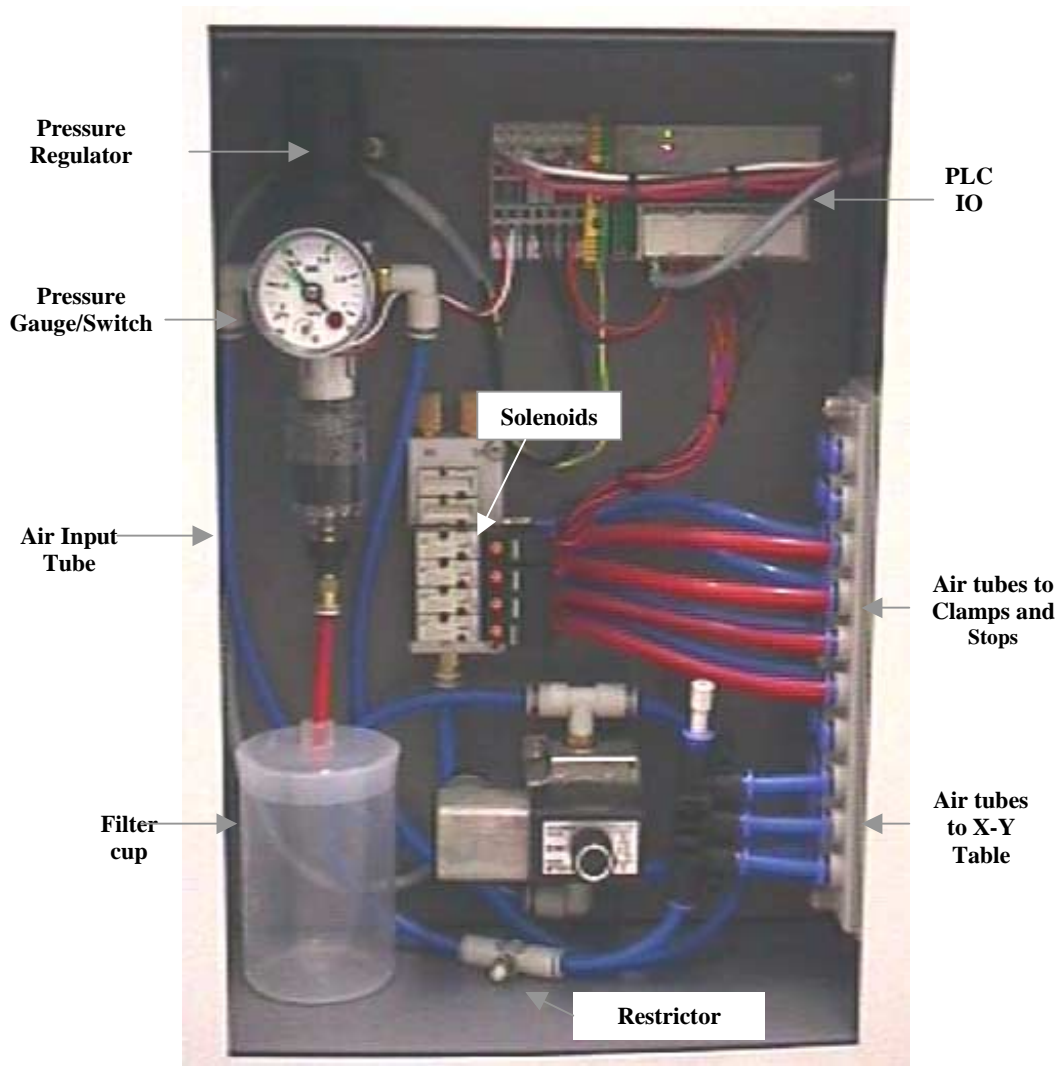

Figure 3.4 SJ50 Pneumatics Panel
- Ensure the air purge to the X-Y Table is operating and that the restrictor is fully open. See fig 3.4.